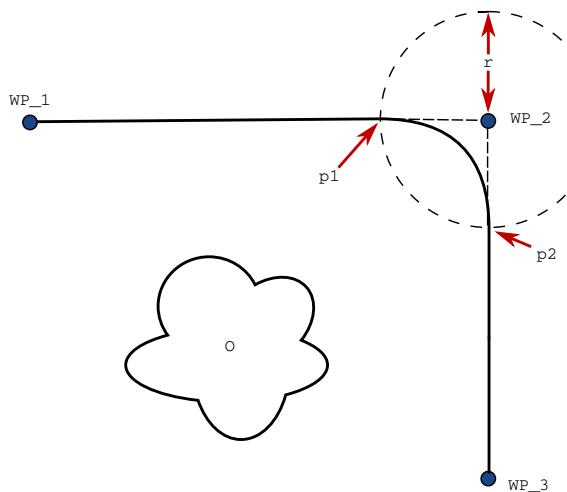

Figure 14.3: Blend over `WP_2` with radius  $r$ , initial blend position at  $p1$  and final blend position at  $p2$ .  $o$  is an obstacle.
**Blend parameters** Apart from the waypoints, multiple parameters will influence the blend trajectory (see figure 14.3):